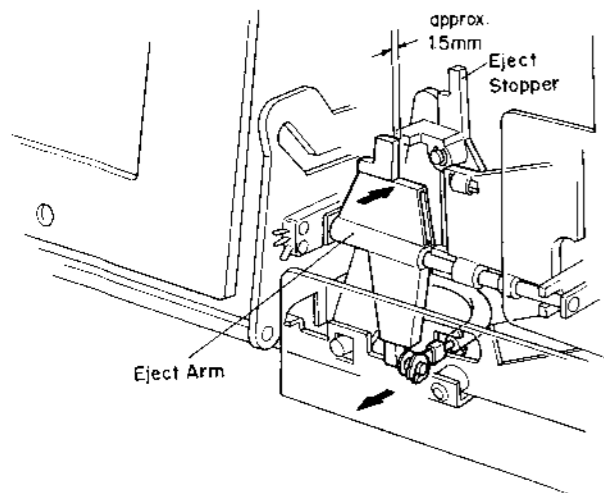

Fig. 4.23
- (1) Referring to Fig. 4.23, insert a 1.5 mm spacer between the Eject Arm and Eject Stopper by turning the Eject Arm in the illustrated direction, then set the N-582Z in Playback mode.